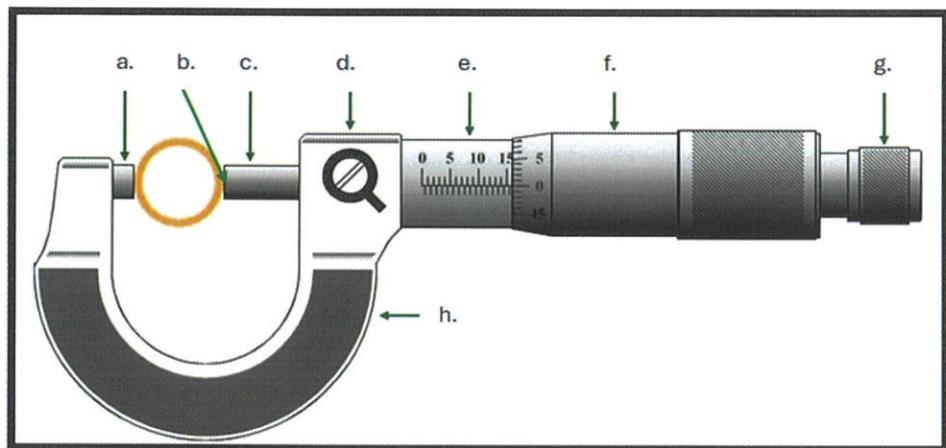

Figure 1(b) / Rajah 1(b)
- (b) Based on Figure 1(b), fill in parts of the micrometer below.